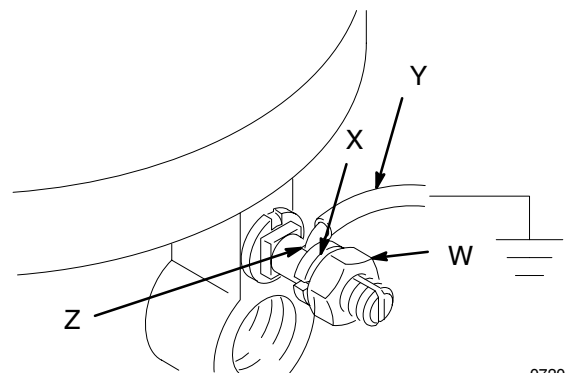

Fig. 1
- *Pump*: use a ground wire and clamp as shown in Fig. 1.
To ground the pump, loosen the grounding lug locknut (W) and washer (X). Insert one end of a 12 ga (1.5 mm²) minimum ground wire (Y) into the slot in the lug (Z) and tighten the locknut securely. See Fig. 1. Connect the other end of the wire to a true earth ground.